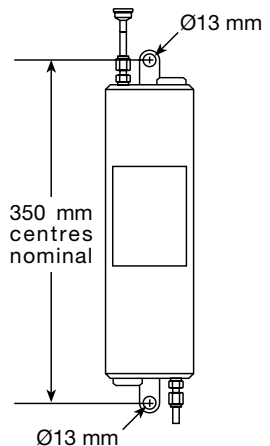

Fig. 3
- The sample cooler must be mounted vertically, using the pre-drilled top and bottom mounting brackets (see Figure 3).